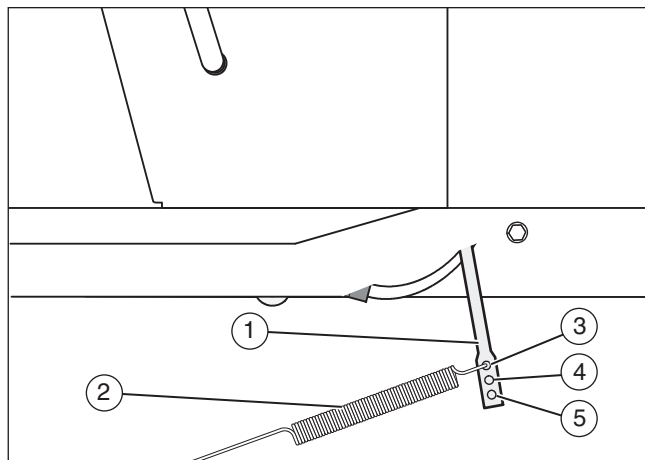

Figure 24
5. Disconnect the blade drive spring (2) from the blade control rod (1). Move the blade drive spring to the middle hole (see **Figure 24**). This will increase the tension on the mower drive belt.
14. If you replace the mower drive belt, move the blade drive spring to the top hole (see **Figure 24**).